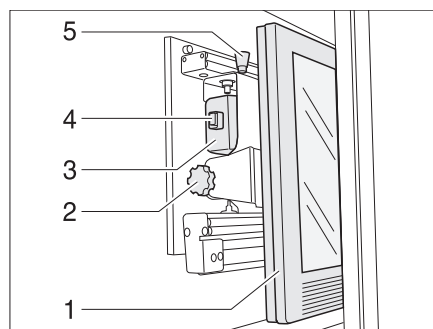

Fig. 61 TV cabinet
- Press the release knob (Bild 61,5) and pull the holder for the flat screen forward as far as possible by the handle (Bild 61,4).
- Pull the release knob (Bild 61,1) and swivel the flat screen (Bild 61,2) to the desired position.
- Loosen the knurled screw (Bild 61,3).